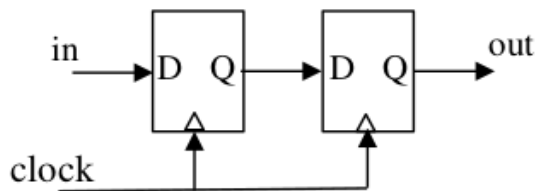

Fig. 5.7
7. Consider the sequential circuit shown in Fig. 5.7, where both flip-flops used are positive edge-triggered D flip-flops. The number of states in the state transition diagram